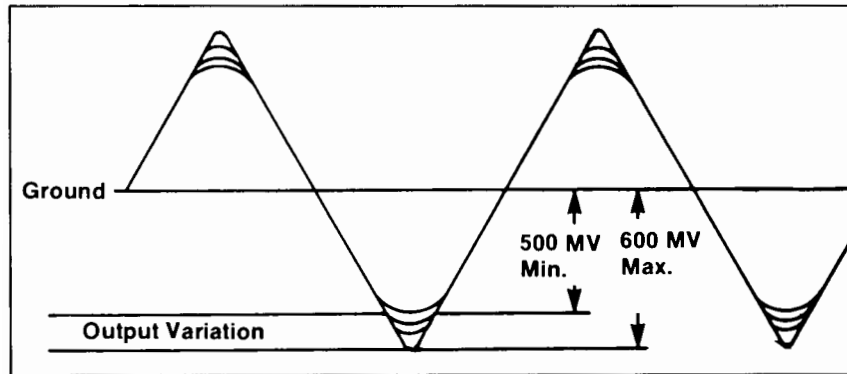

Figure 6-3. Character Strobe Pick-up Adjustment (PIN B19)
12. Attach scope to pin B19 for adjustment of character strobe pick-up (See Figure 6-3 for specifications). TRIGGER POSITIVE. Use B55 and/or B56 for GND.